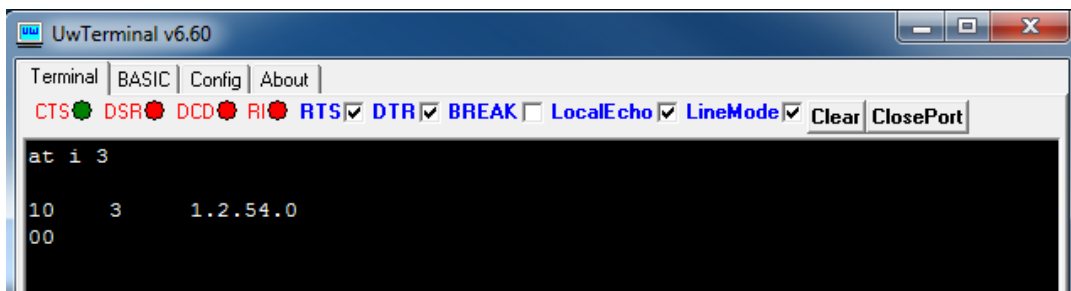

Figure 12: Issuing AT I 3 to check firmware version
5. Send the string **ATI 3** as shown in Figure 12: